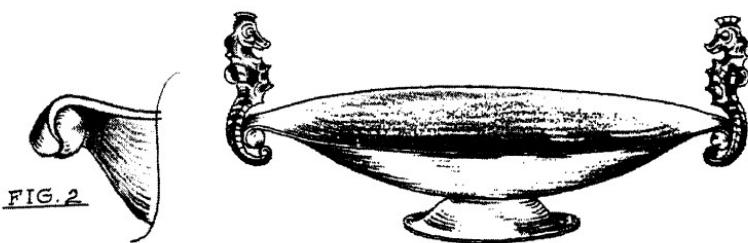

FIG. 2
8. Bend the ends to hug the balls (Fig. 2).